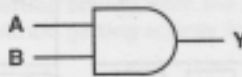

Fig. 6, Logic Symbol
7. Repeat Steps 4 and 5 for the next four inverters and for Pins 5-6, 8-9, 10-11, and 12-13 (see Figure 6).